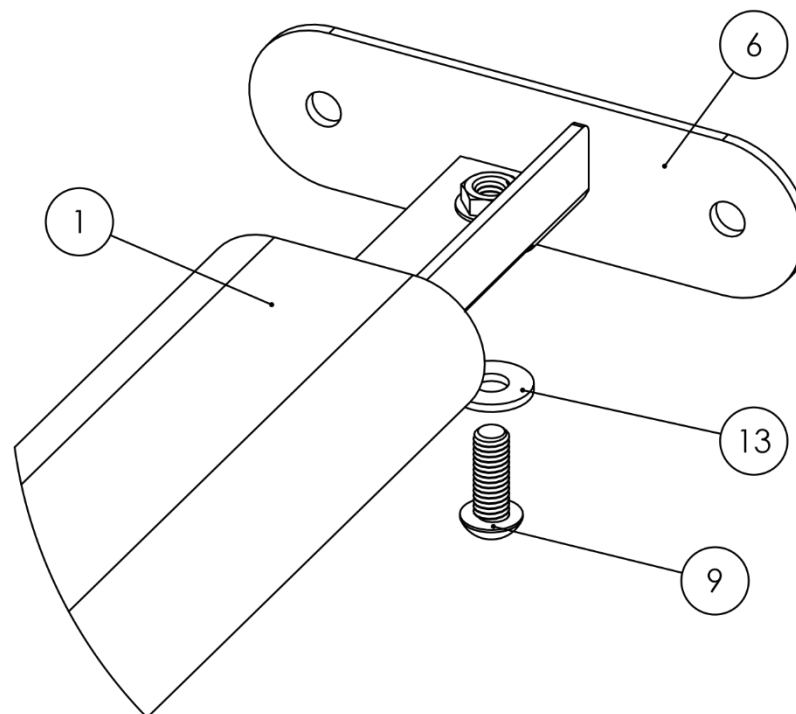

Figure 10
5. **Install the Side Rail Connectors to the Crossbars.** Slide a Side Rail Connector (Item No. 6) into the end of each Crossbar (Item No. 1). Once inserted, match the Crossbar's pre-drilled hole with the Connector's threaded hole. As shown in Figure 10, secure each Side Rail Connector by threading a 1.25" Button Head Cap Screw (Item No. 9) and a Metal Washer (Item No. 13) into these holes.